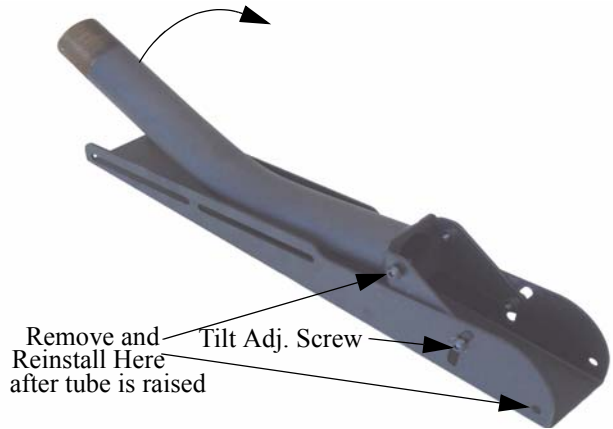

Figure 1. Raise tube of Body
1. Remove two adjustment screws that are not securing the tube and open the body assembly by raising the tube, pivoting it on the tilt adjustment screws (see Figure 1).